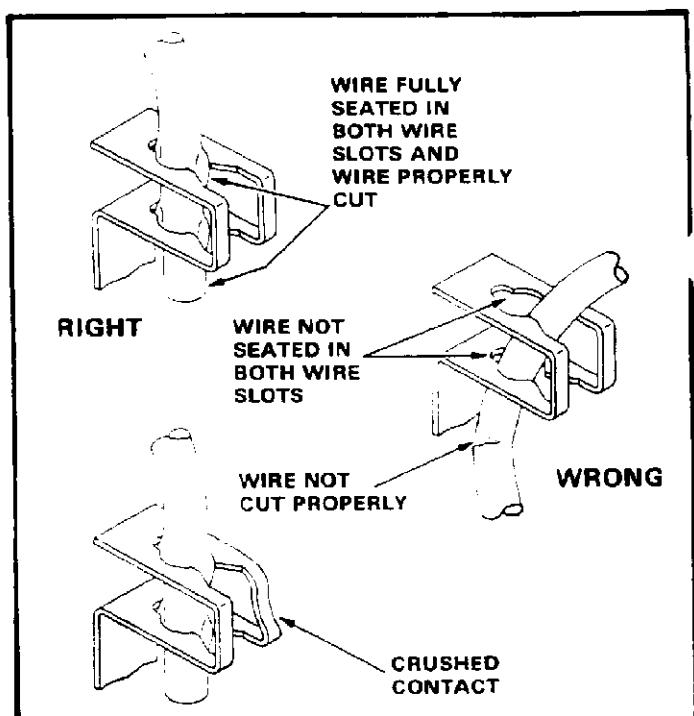

Fig. 3
**4. INSPECTION OF TERMINATIONS (Figure 3)**